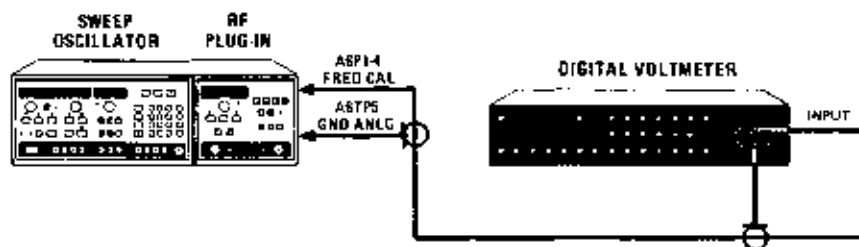

Figure 5-5. YO Driver Board Adjustment Test Setup
1. Connect the equipment as shown in Figure 5-5 with the DVM connected to A6P1 pin 4 (FREQ CAL) and common connected to A6TP5 (GND ANLG).
4. Float ground on DVM and connect floating ground to A6TP13 (+20 V FREQ. REF.). Connect measurement lead of DVM to A6TP16. (See Figure 5-5 and 5-6.)